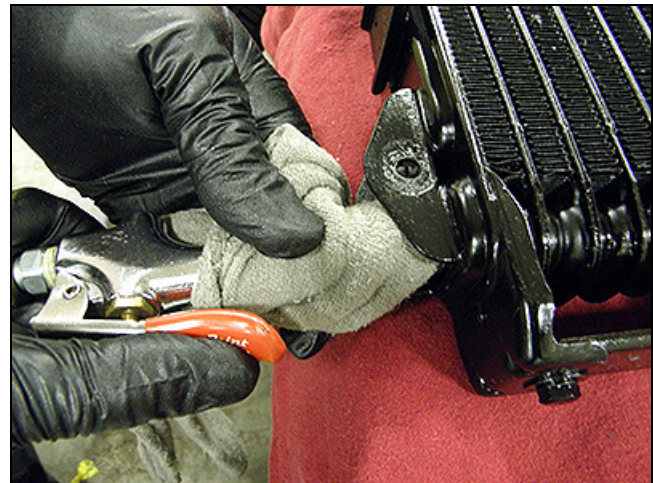

Figure 8
8. Insert the tip of an air gun into the end of the auxiliary fluid cooler inlet (Figure 8).
9. Wrap a shop rag around the air gun tip and end of the cooler inlet (Figure 8) to reduce blowback.
13. To complete the flush, insert the tip of an air gun again into the end of the auxiliary fluid cooler inlet (Figure 8).
14. Wrap a shop rag around the air gun tip and end of the cooler inlet (Figure 8).